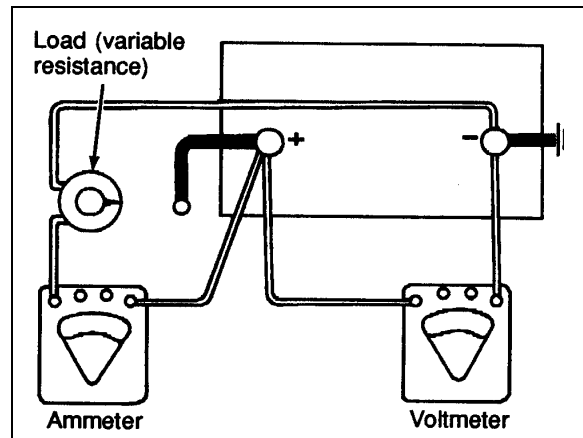

FIGURE 14: LOAD TEST
Disconnect cables from the battery and attach alligator clamps to the contact lead pad on the battery as shown in figure 14. Connect a load equal to half the CCA across the terminal for 5 seconds to remove surface charge from the battery.
1. Connect a voltmeter, ammeter, and a variable load resistance as illustrated in figure 14.